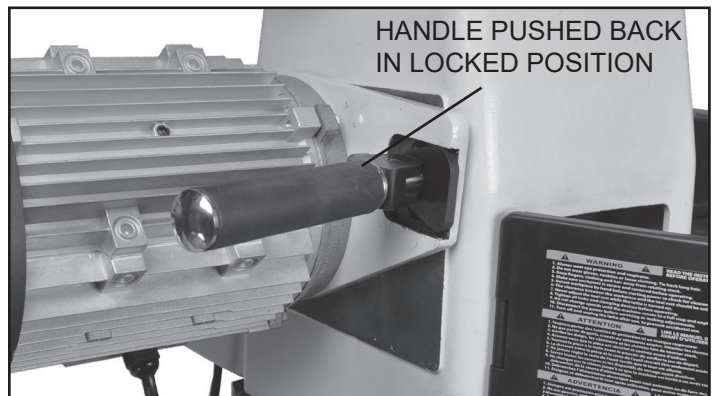

FIG. 30
3. Pull the Belt Tensioning Handle (#B52) forward, away from the motor. Figure 30.
4. With the Poly-V-Belt positioned on the pulleys, raise the tensioning handle so that the weight of the motor provides the needed tension on the belt. Then secure the tensioning handle in place by pushing the handle back towards the motor. Figure 30.
3. Pull the Belt Tensioning Handle (#B52) forward, away from the motor. FIG. 36. (See Page 16, Figure 30 & 31).